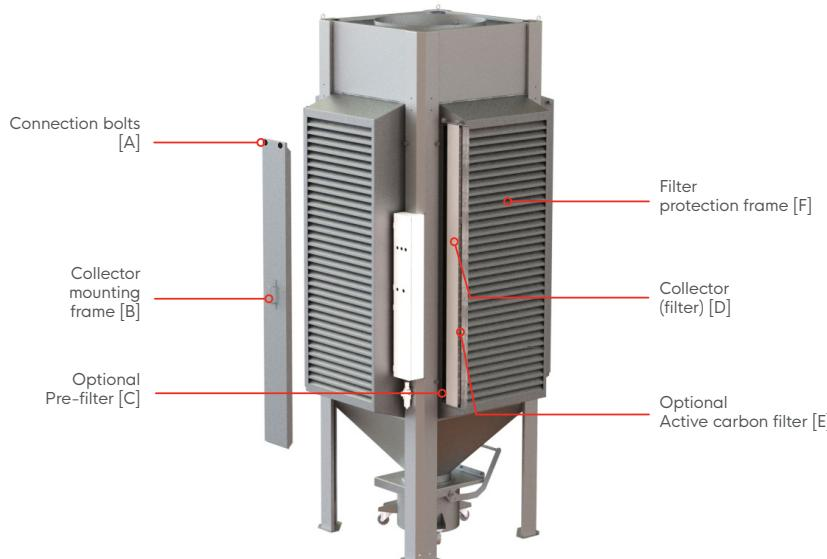

Figure 5.1: Filter replacement
2. Remove the two connection bolts (figure 5.1 [A]) from the collector mounting frame (figure 5.1 [B]).